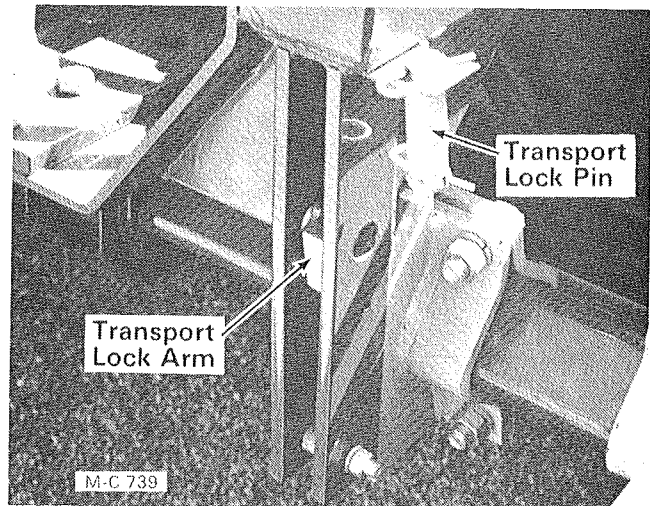

Figure 13
- The transport lock, Figure 13, holds the body of the Shredder up so that it can be transported with the hydraulic or mechanical ram disconnected.